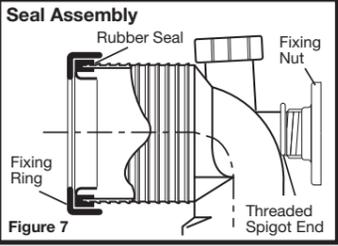

Figure 7
- 8- Position rubber seal over the front of the Uniconnector and secure with the fixing ring, as detailed in Fig. 7.